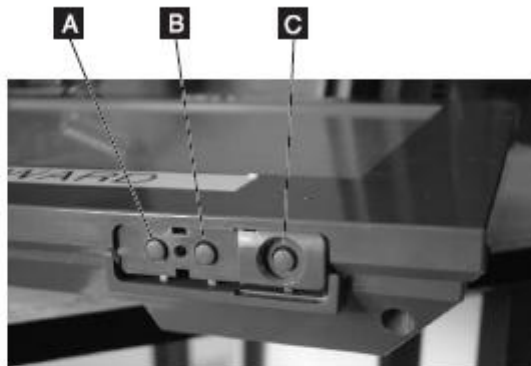

Figure 12. Location of power switch and screen brightness adjusting buttons
2. Power on the system using the power switch (**C** in Figure 12). The power light-emitting diode (LED) appears green.